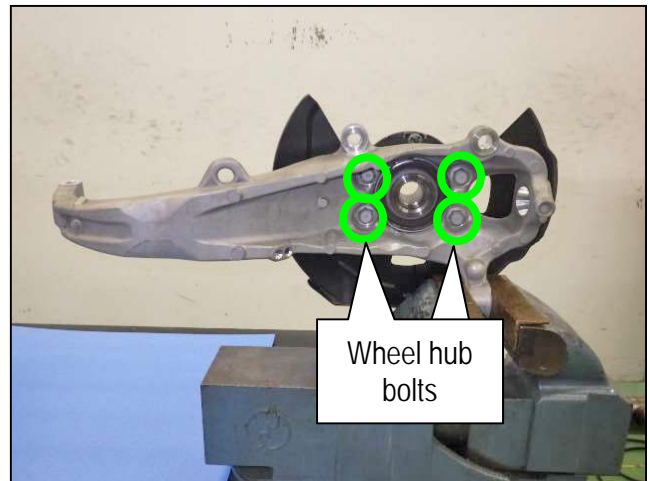

Figure 17
12. Place the steering knuckle securely in a vise (Figure 17 [AWD shown, 2WD is similar]).